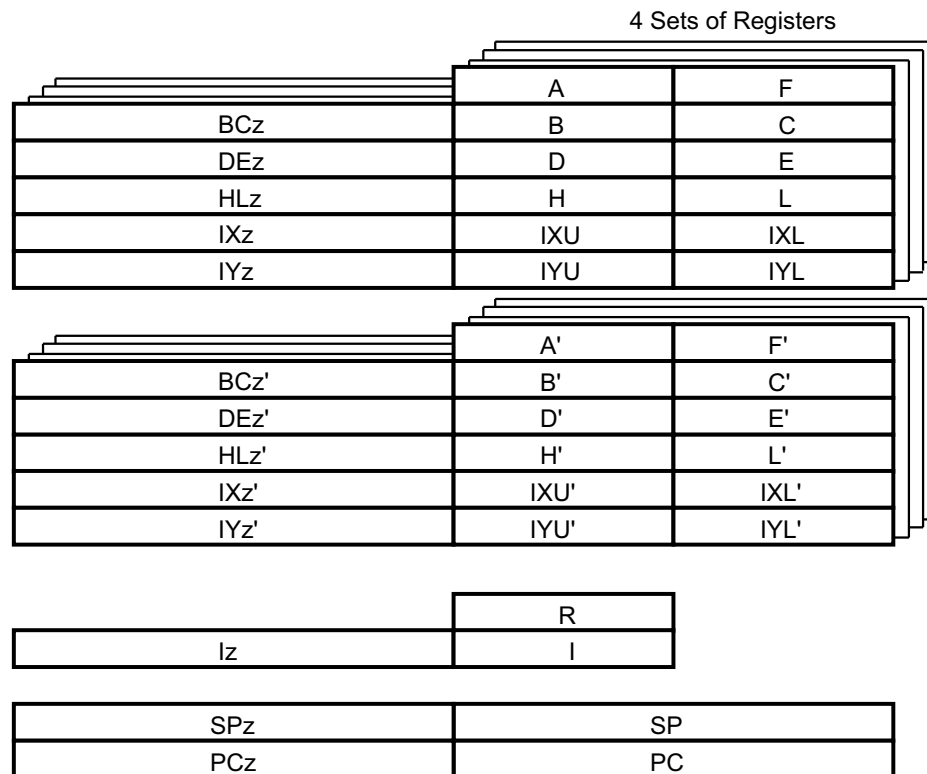

Figure 33. Register Set
The CPU register space is shown in Figure 33 and consists of all of the registers in the CPU register file. These CPU registers are used for data and address manipulation, and are an extension of the Z80 CPU register set, with four sets of this extended Z80 CPU register set present in the Z380 CPU. Access to these registers is specified in the instruction, with the active register set selected by bits in the Select Register (SR) in the CPU control register space.
The Z380 CPU contains abundant register resources (Figure 33). At any given time, the program has immediate access to both the primary and alternate registers in the selected register set. Changing register sets is a simple matter of a LDCTL instruction.